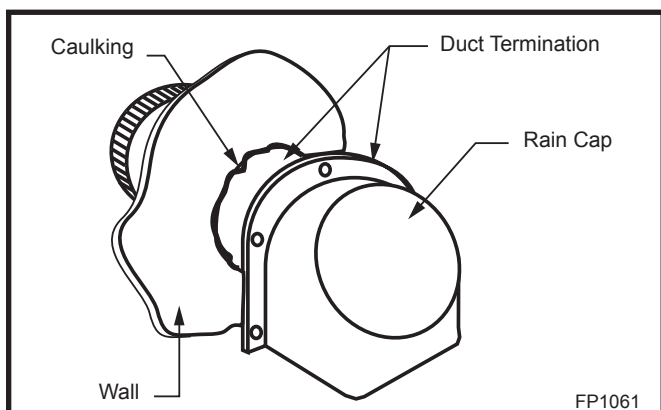

Fig. 15 Caulk and install duct termination/rain cap in place.
- Attach the inlet collar with four (4) #10 screws to the side near the bottom of the fireplace. Slide the duct over the collar and attach the duct to the collar using the plastic tie straps or three (3) screws (screws not provided). Continue attaching the ducting together using three (3) screws at each joint until you have installed sufficient duct to arrive at your duct termination location.
- At the termination end, install the duct termination. This should be installed from the outside of the home. Cut a hole in the desired location approximately 4½" (114 mm) diameter, caulk around the hole, and slide the termination through the opening from outside the home. The termination/rain cap should be caulked around its perimeter to assure a tight seal. The rain cap opening should be positioned downward. (Fig. 15)